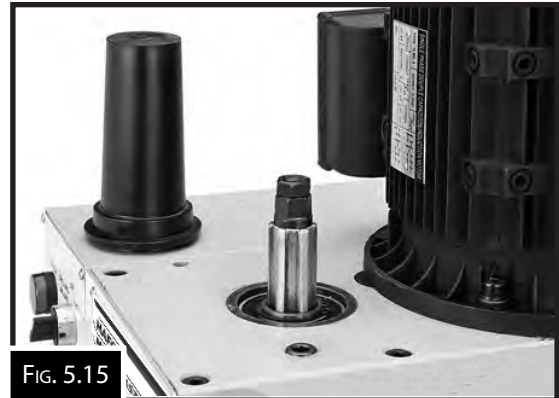

FIG. 5.15
2. Remove the draw-bar cap, so the draw-bar is exposed. (Fig. 5.15)